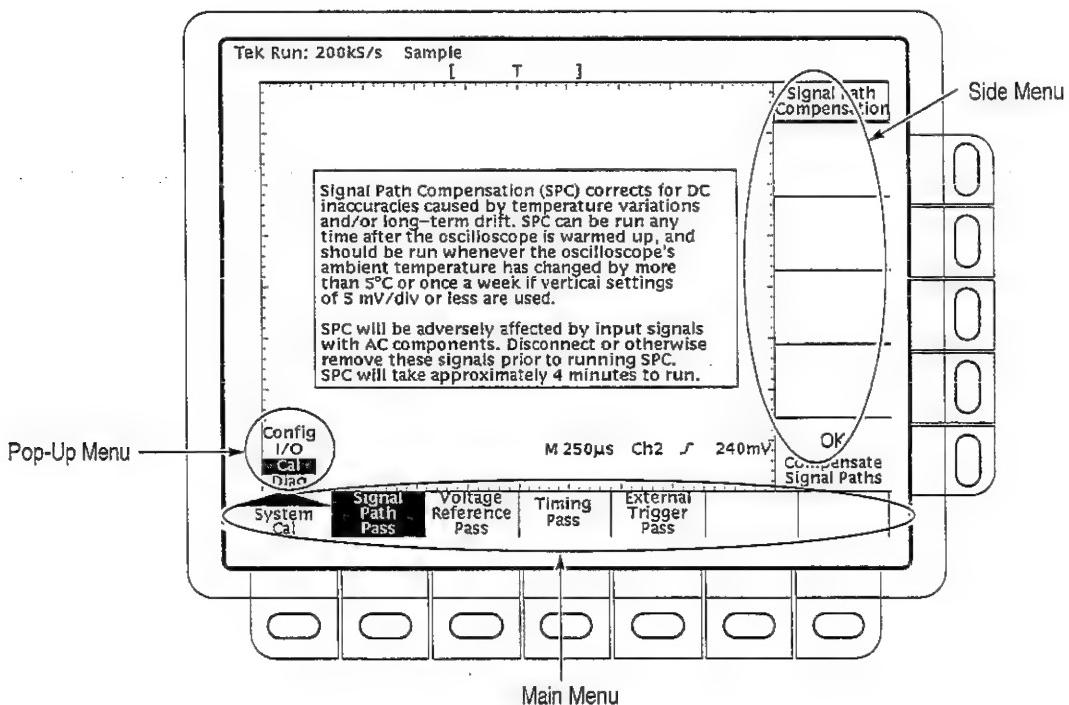

Figure B-1: Menu locations
- Refer to Figure B-1: "Main menu" refers to the menu that labels the seven menu buttons under the display. "Side menu" refers to the menu that labels